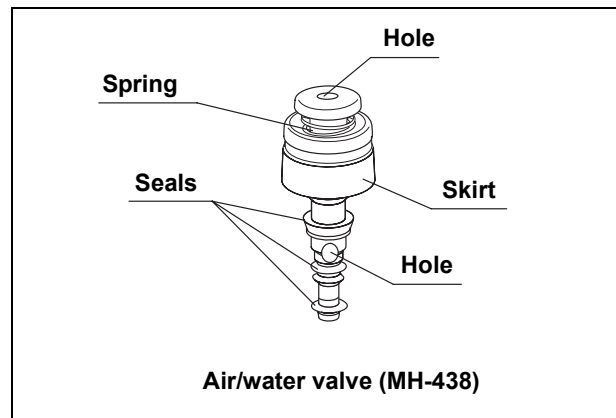

Figure 3.7
1. Confirm that the holes of the valves are not blocked (see Figures 3.7 and 3.8).
2. Confirm that the valves are not deformed or cracked (see Figures 3.7 and 3.8).
3. Check for excessive scratching or tears in the air/water valve's seals (see Figures 3.7 and 3.8).